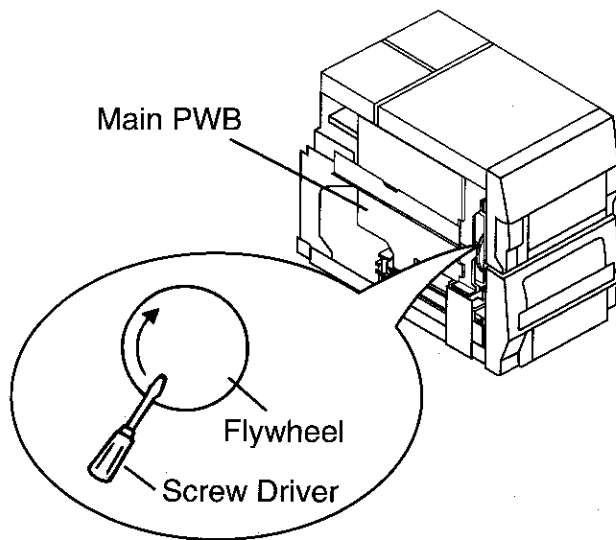

Figure 10-2
3. When a screwdriver (or other thin probe) is inserted in the clearance next to the main PWB and the flywheel is turned in the direction of the arrow, the head will go down and the cassette holder can be opened. (Fig. 10-2)